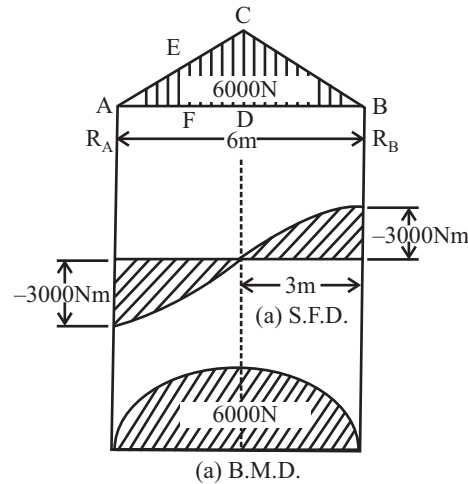

Fig 12.16
Q.13: A simply supported beam 6m long is subjected to a triangular load of 6000N as shown in fig 12.16 below. Draw the S.F. and B.M. diagrams for the beam.